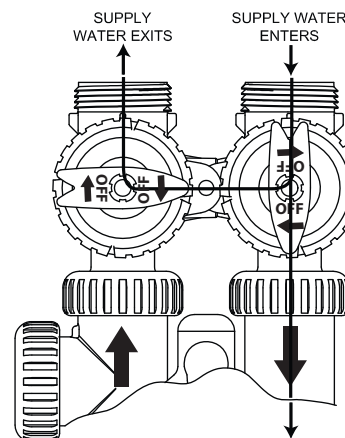

FIGURE 3
**Figure 3. Diagnostic Position:** The inlet handle points in the direction of flow and the outlet handle points to the center of bypass valve, system water pressure is allowed to the control valve and the plumbing system while not allowing water to exit from the control valve to the plumbing.